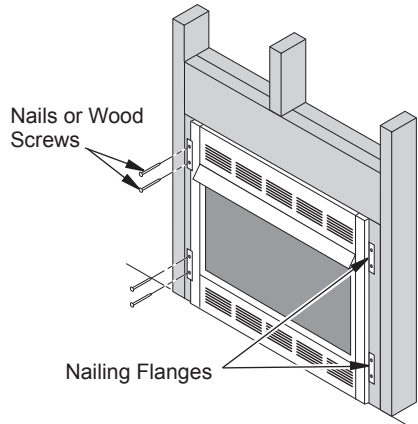

Figure 17 - Attaching Fireplace to Wall Studs
13. Attach fireplace to wall studs using nails or wood screws through holes in nailing flange (see Figure 17).